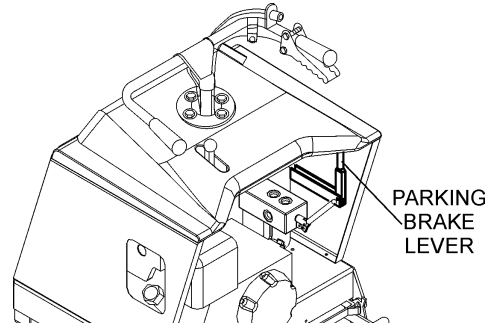

Figure 15. Parking Brake Lever
1. Engage the parking brake lever (Figure 15) and attempt to rock the buggy back and forth. If the wheels turn during the rocking motion, adjust the brakes as outlined in the maintenance section of this manual.
2. Engage the parking brake (Figure 15).